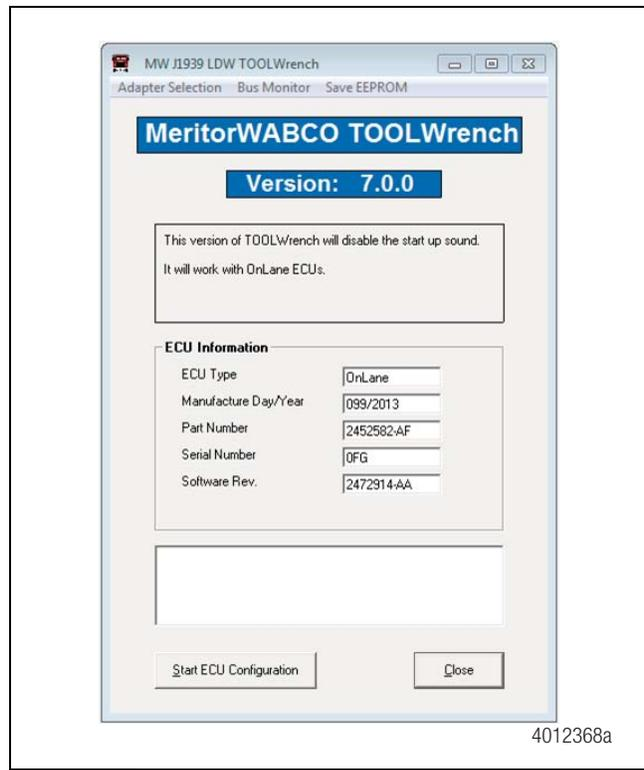

Figure 4
- Execute the application and the following screen should appear. Figure 4.
- Click on the "Start ECU Configuration" button. Figure 4.